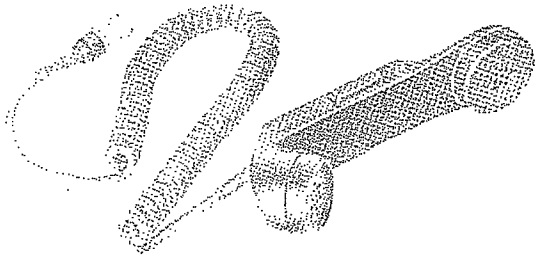

Figure 1-7. Handset H-189/GR
b. Handset H-189/GR (fig. 1-7)